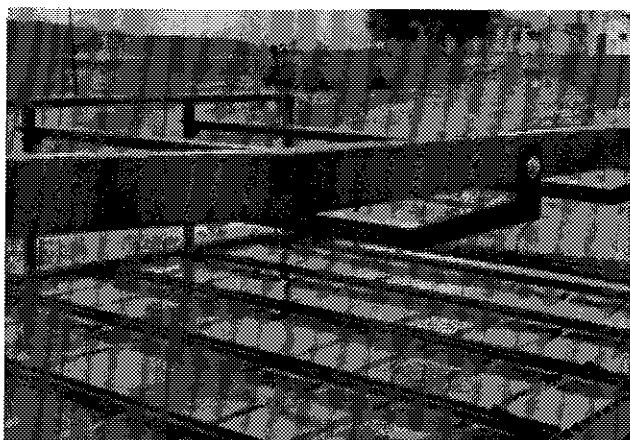
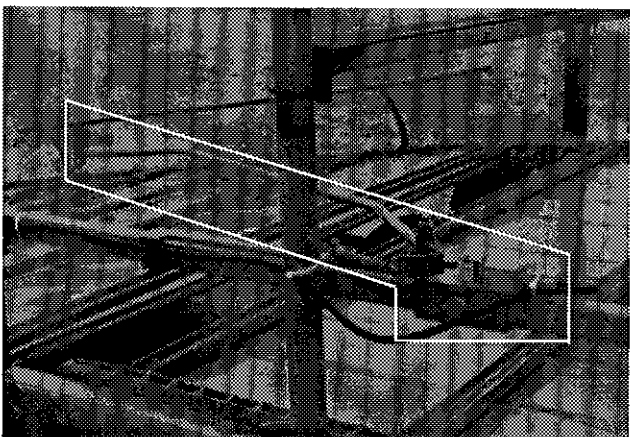

Figure 22
Figure 23
- 4) Adjust the bale stabilizer bars (Figure 22) to maintain a gap of approximately one half ($\frac{1}{2}$ ") to one (1") inch above the bales.
- 5) As previously described in the installation section, item 9 page 9, adjust the ground clearance of the inclined accumulator table to approximately two (2") to three (3") inches. It is meant to occasionally drag on the ground when operating in uneven terrain.
- 6) Adjust the position of the "full accumulator" switch actuator (Figure 23) so that when the transfer of a lot of 18 bales is made, the rear corner bale will release the switch at the right moment and stop the inclined table conveyor in proper position.